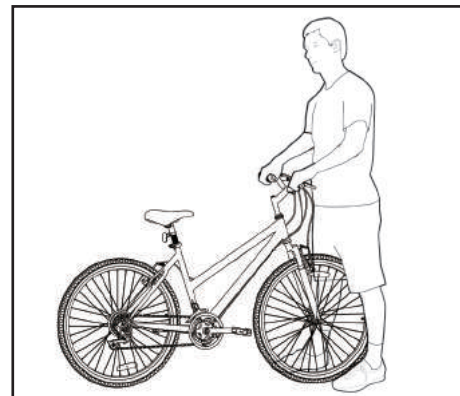

Figure 27
**⚠ WARNING:** To prevent steering system damage and possible loss of control, the stem and handlebars must be properly adjusted and tightened. **DO NOT OVERTIGHTEN** (see Page 23, Figure 27).